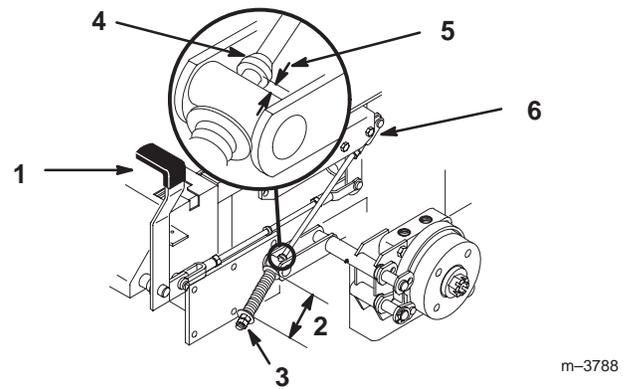

Figure 54
2. Measure the length of the spring. Measurement should be 2.75 in. (70 mm) between washers (Fig. 54).
3. If adjustment is necessary, loosen the jam nut below the spring and tighten the nut directly below the yoke (Fig. 54). Turn the nut until the correct measurement is obtained. Tighten the two nuts together and repeat on opposite side of unit.
- A. Measure the distance between the trunnion roller and the collar on brake rod. Measurement should be 3/16-1/4 in. (5-7 mm) (Fig. 54).
6. If adjustment is necessary, loosen the jam nut directly below the yoke. Turn the bottom rod until the correct measurement is obtained (Fig. 54). Tighten jam nut at yoke